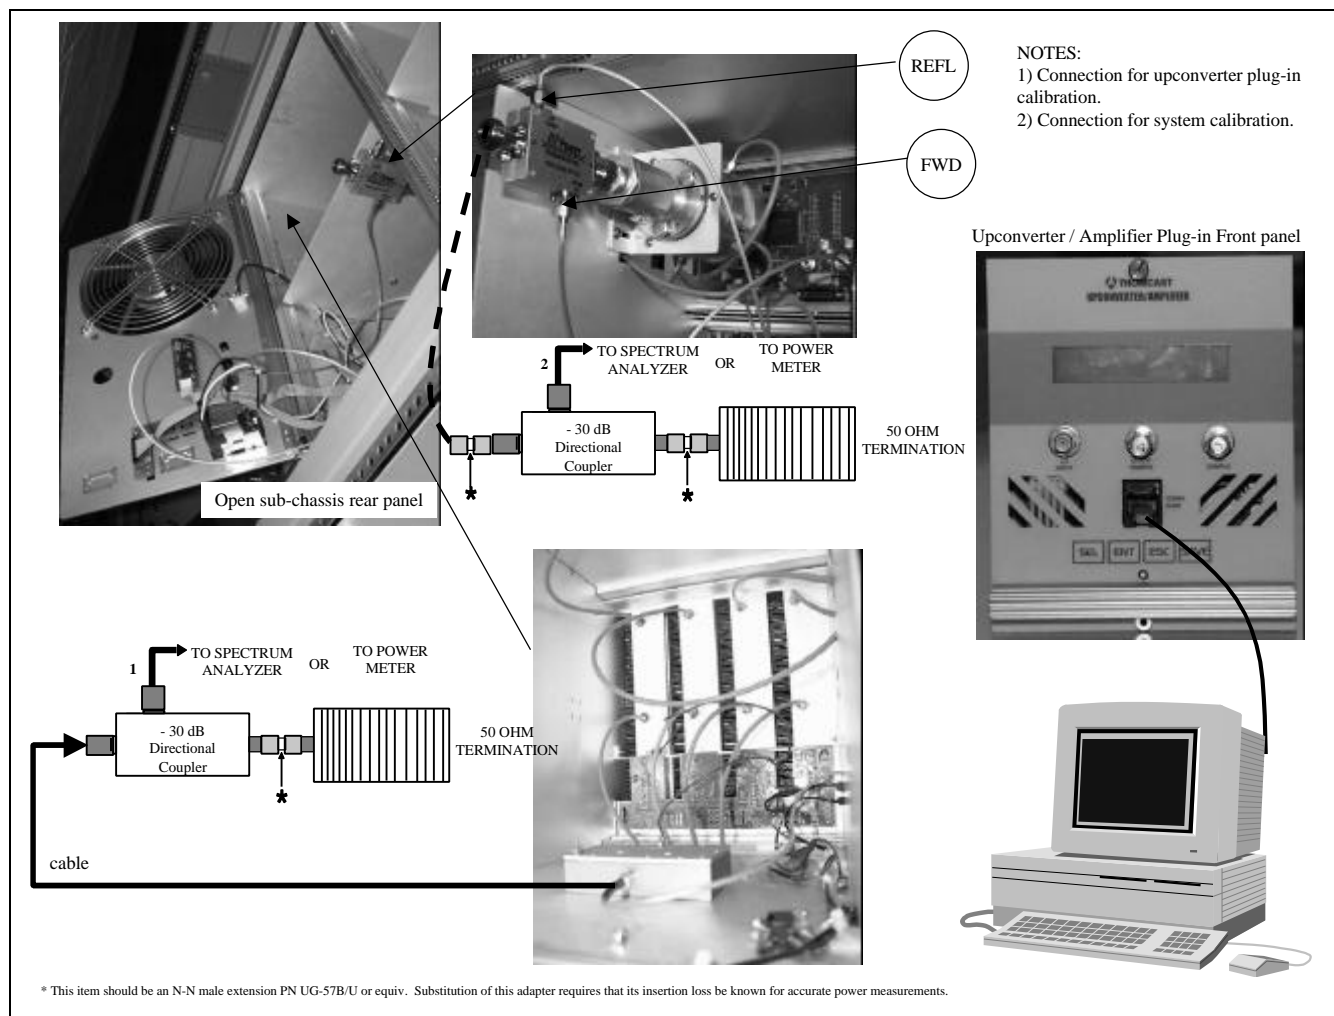

Figure 1: Calibration interconnections.
- 1) Make connections as depicted in Figure 1 note 2.